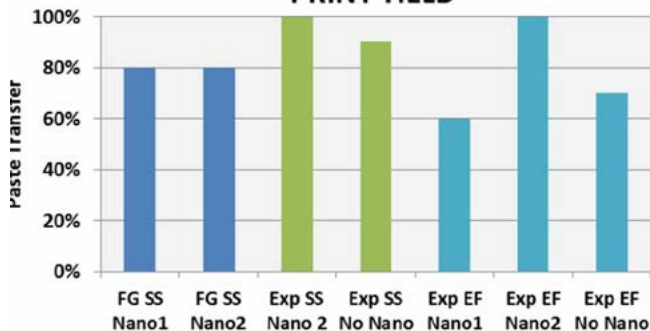

Figure 9: Effects of stencil alloy and coating on print yields.
The FG SS with both the first- and second-generation nanocoatings produced 80% yield. The experimental SS without nanocoating produced 90% print yield, and with the new-generation nanocoating produced a 100% print yield. The experimental electroform (EF) stencil with the new nanocoating also produced 100% print yield, but the experimental EF stencils with first-generation or no nanocoating only produced 60 and 70% yields, respectively. Print yields for the different materials and coating are compared in Figure 9.